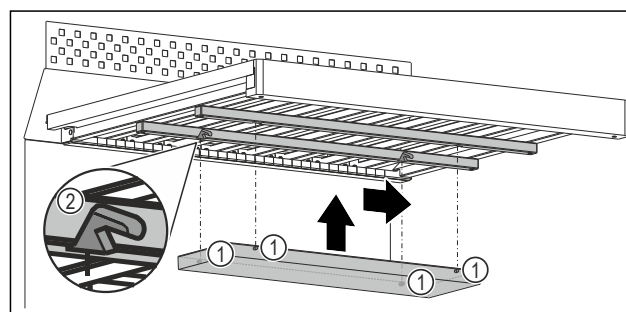

Fig. 94 Example illustration
- Insert each peg Fig. 94 (1) in the corresponding recess Fig. 94 (2) on the battens below the wooden grating.